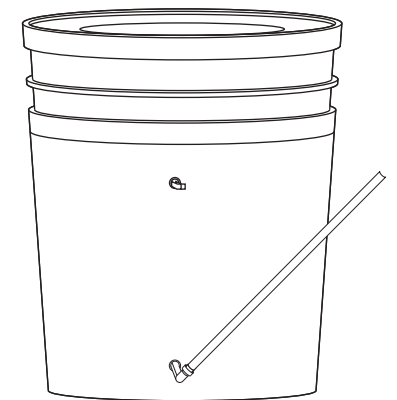

Figure 2
2. Rotate the water pipe downwards and remove the Red Floating Ball #K, as shown in Figure 2.